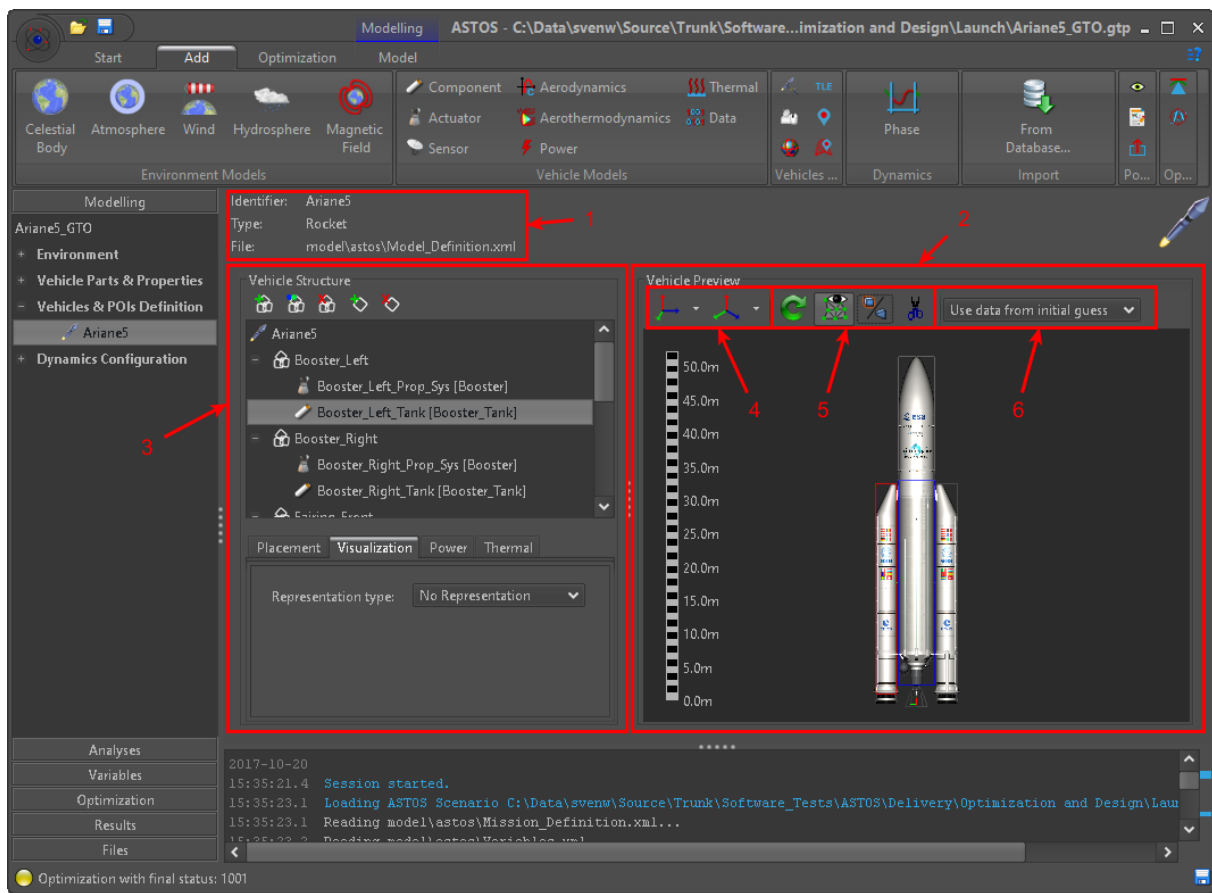

Fig. 4.1: The Vehicle Builder panel
The **Vehicle Builder** (Fig. 4.1) panel allows the user to build up vehicles and ground stations. The panel is displayed when an object is selected in the *Modelling* tree. The **Vehicle Builder** panel consists of three main sections. The first section (1) shows information about the object name and type, as well as the storage location of the configuration.